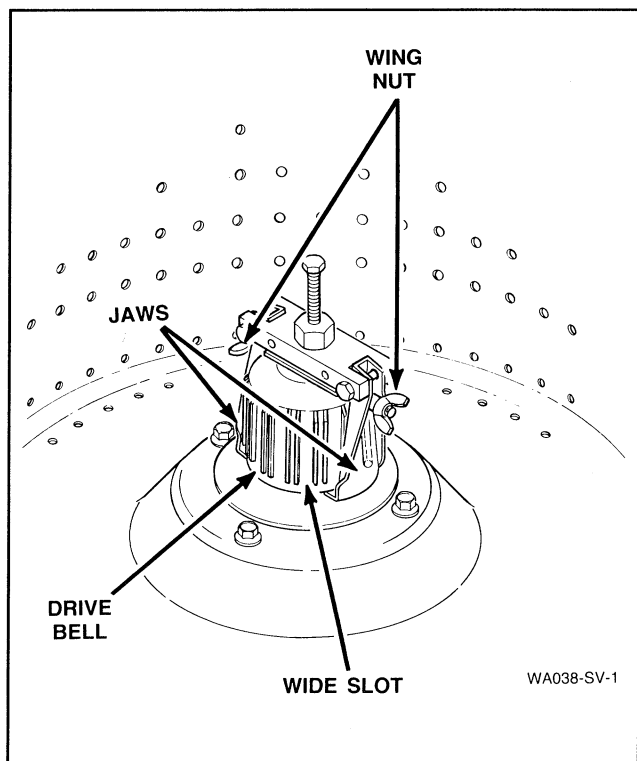

Figure 14
- Place the tool over the bell making sure the indent on the jaw lines up with the wide slots on the bell, *Figure 14*.
- Place the lip of each jaw under the bottom edge of the drive bell, making sure the indent on the jaw lines up with the wide slots on the bell. Then tighten the two wing nuts to hold the jaws firmly against the drive bell, *Figure 14*.